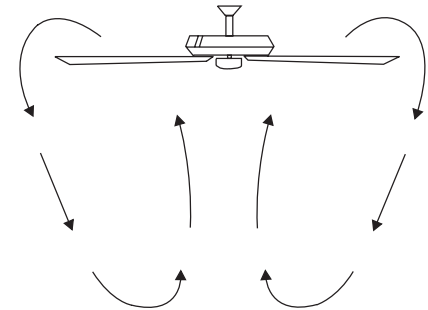

Fig. 20
**Cool Weather Operation: Reverse (clockwise).** An upward airflow moves warm air off the ceiling areas (Fig. 20). This allows you to set your heating unit on a cooler setting without affecting your general comfort.